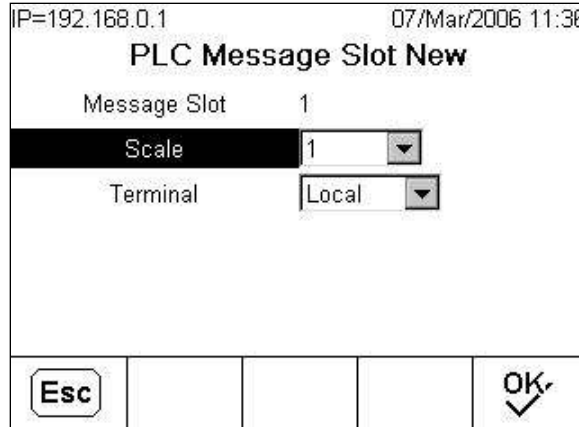

Figure 4-9: New Message Slot Screen
6. Figure 4-9 shows the screen that opens when NEW is selected from the Message Slots View screen (Figure 4-8).